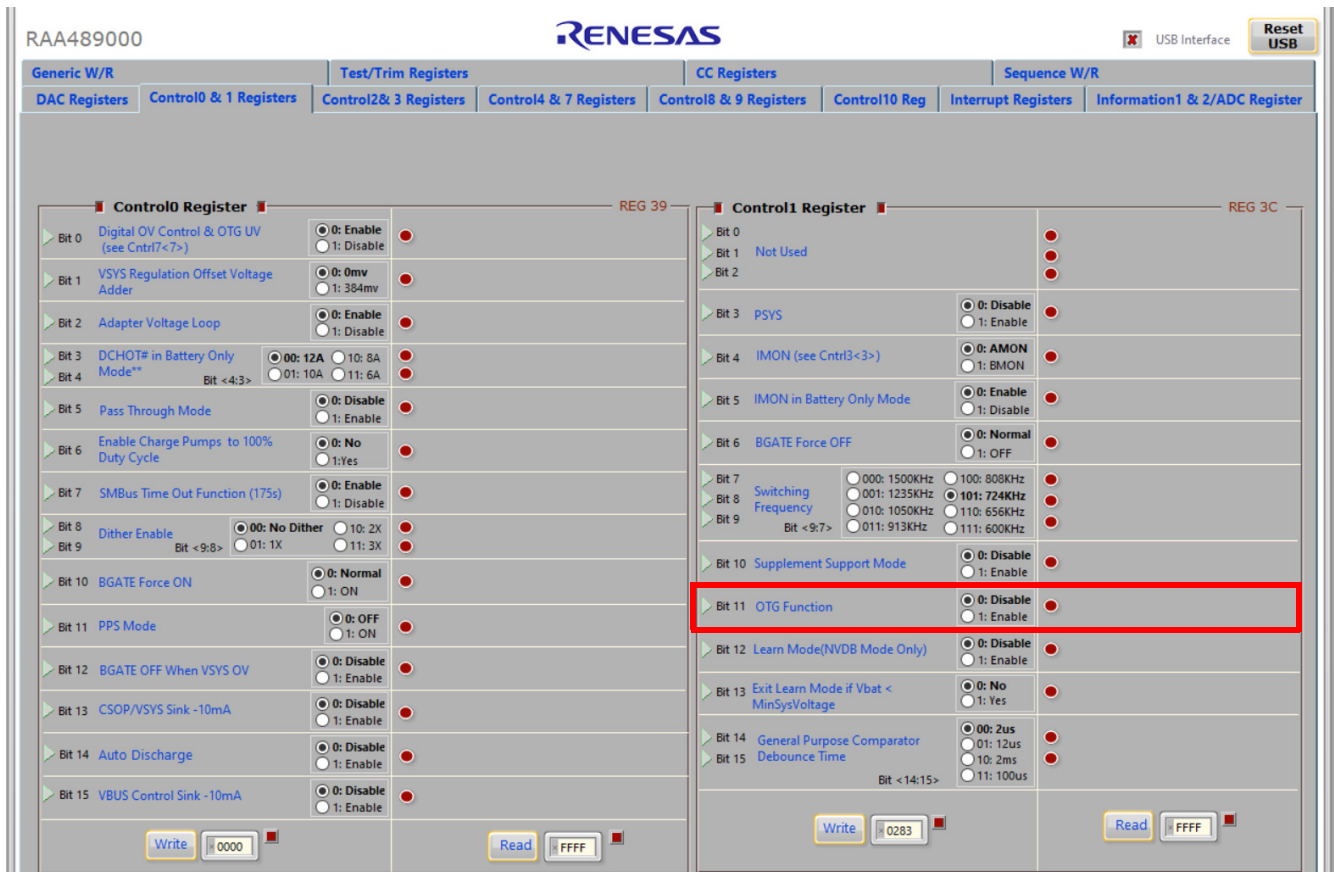

Figure 10. Enabling OTG Function
6. In the **Control1 Register** column, select **1: Enable** in **OTG Function** to enable OTG, then click **Write**. See Figure 10.